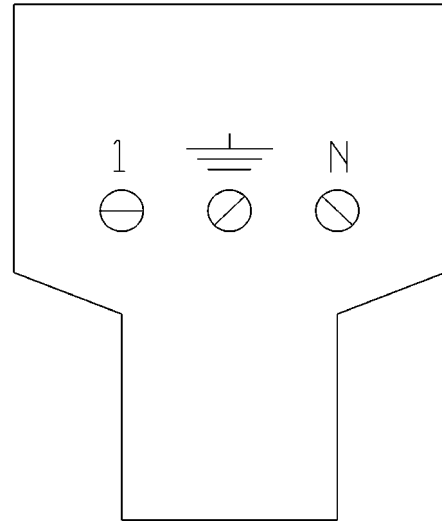

Fig. 9
- Connect the power cable supplied to the connector on the back of the appliance, plug the connector into the power supply unit on the back of the post (fig.3) where you will find the terminal board (fig.9) set to operate at a supply voltage of 230V monophas.